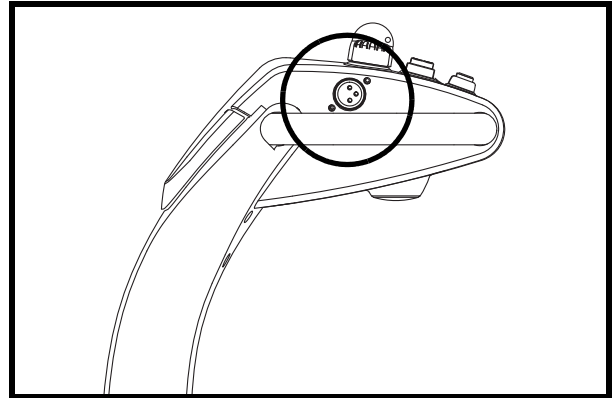

Figure 6. Off-board Charger Port
The off-board charger power lead plugs into this port when charging the batteries. See figure 6.
4. Plug the 3-pin charger power lead into the off-board charger port. See figure 6.